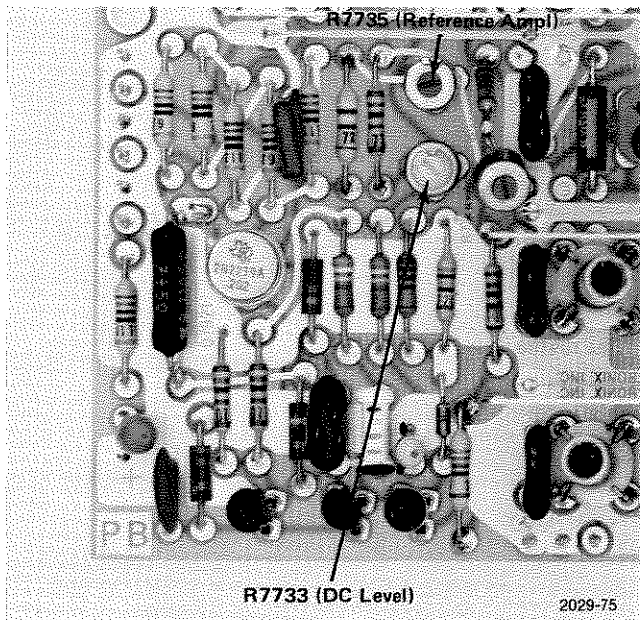

Fig. 3-7. Output Amplifier adjustment locations.
**ADJUST**—R7735 (Reference Ampl), see Fig. 3-7, so the pedestal exactly overlays the blanking level (100 IRE).
ADJUST—R7733 (DC Level, see Fig. 3-7) to position the blanking level to the ground reference line (0 volt).